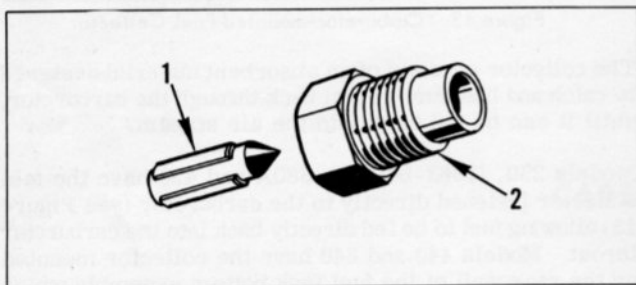

Figure 15. Inlet Control Valve
Previously, McCulloch carburetors used a three-piece inlet control valve assembly consisting of: (1) valve body, (2) metal needle, (3) rubber seat. The improved control valve has been designed as a two-part assembly consisting of: rubber tipped needle (1), and valve body with integral metal seat (2, Figure 15).